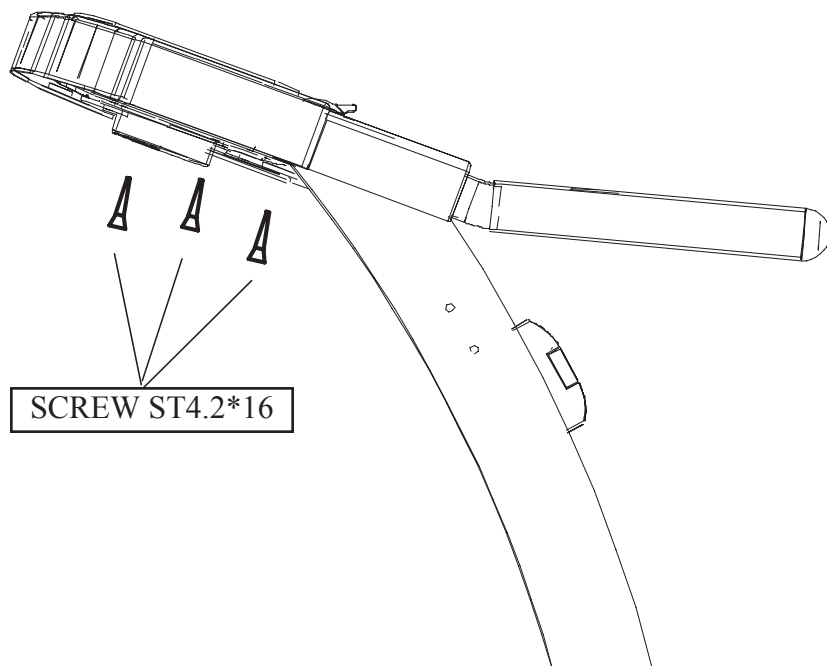

Figure 9: Console Back Cover Installation
10. Make sure all wires and harnesses are inside console housing and attach the console back cover to the Left and Right Upright mounting brackets using Screws ST4.2*16 (Qty. 6) as shown in Figure 9.